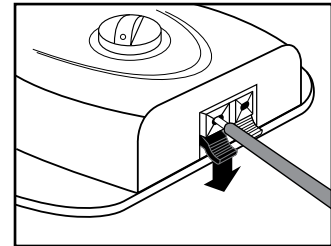

figure 19
- Insert the other end of the Boundary Wire into the red tab on the bottom of the Base Transmitter by pulling back the red tab. (fig. 19)